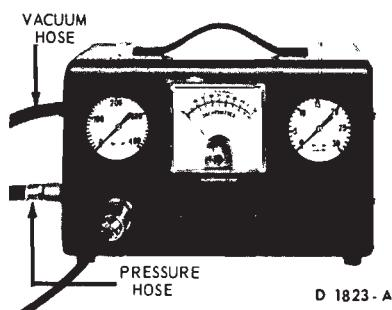
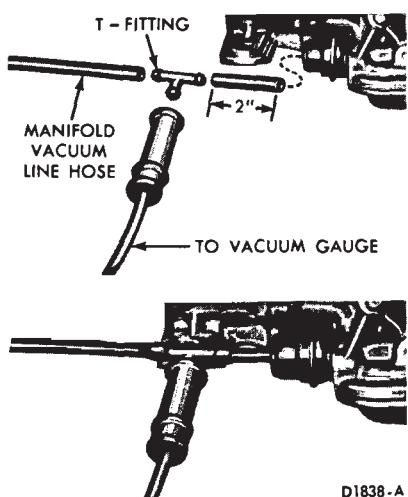

FIG. 4—Rotunda ARE-2905 Automatic Transmission Tester
FIG. 5—Typical Vacuum Test Line Connections
1. Using the automatic transmission tester (Fig. 4), attach the tachometer to the engine and the vacuum gauge to the transmission vacuum line at the vacuum unit (Fig. 5).
1. Using the automatic transmission tester (Fig. 4), attach the tachometer to the engine.